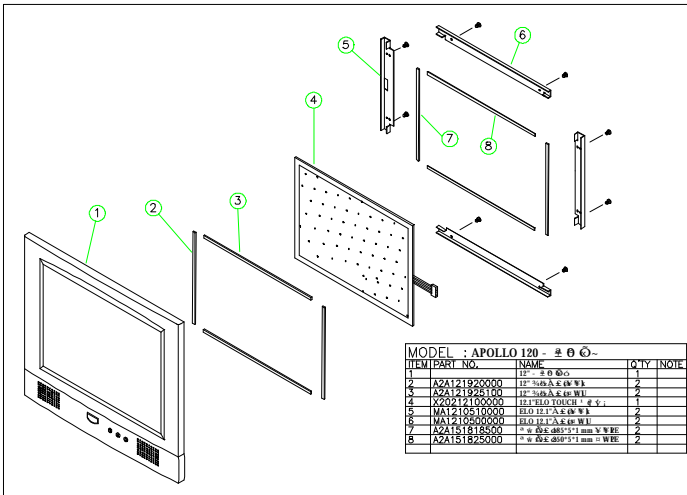

FIGURE 5-6: APOLLO 120 FRONT BEZEL ASSEMBLY
2. There are 4 metal brackets used to fix the touchscreen to the front bezel. The metal brackets have to be taped with soft tapes as shown on Figure 5-6 (7) & (8).